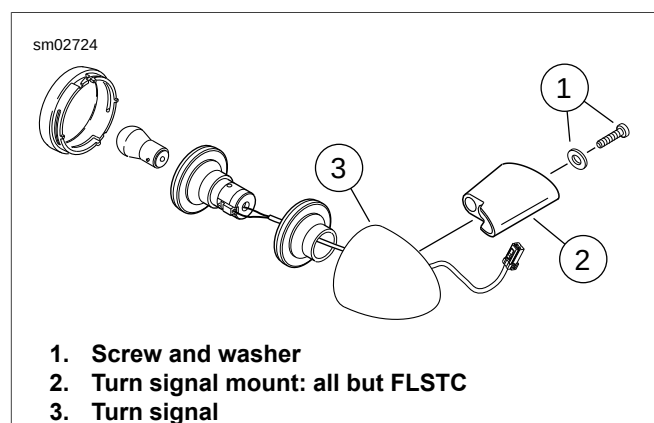

Figure 7-57. Rear Turn Signals: All but FLSTC
- b. **All but FLSTC:** see Figure 7-57. Detach fender support hardware. See 2.30 REAR FENDER: FXST. Remove screw and washer (1) from inside fender support to detach turn signal from mount (2).